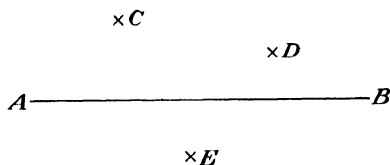

Fig. 131
1. In your notebook draw any diagram similar to Fig. 131. Draw a line through C parallel to line AB .
2. Draw lines through D and E , each parallel to line AB , in Fig. 131.
3. Draw a perpendicular from E in Fig. 131 to line AB .